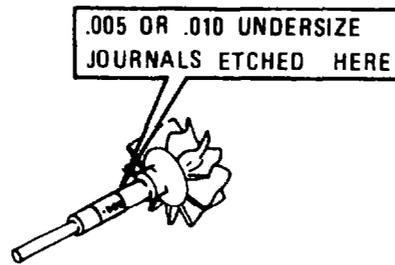

Fig. 148 — Etching Marks — Undersize Journals
NOTE: 3. On the turbine wheel assembly (item 21) the undersize part has the corresponding numbers etched into the shaft between the journals (see fig. 148).